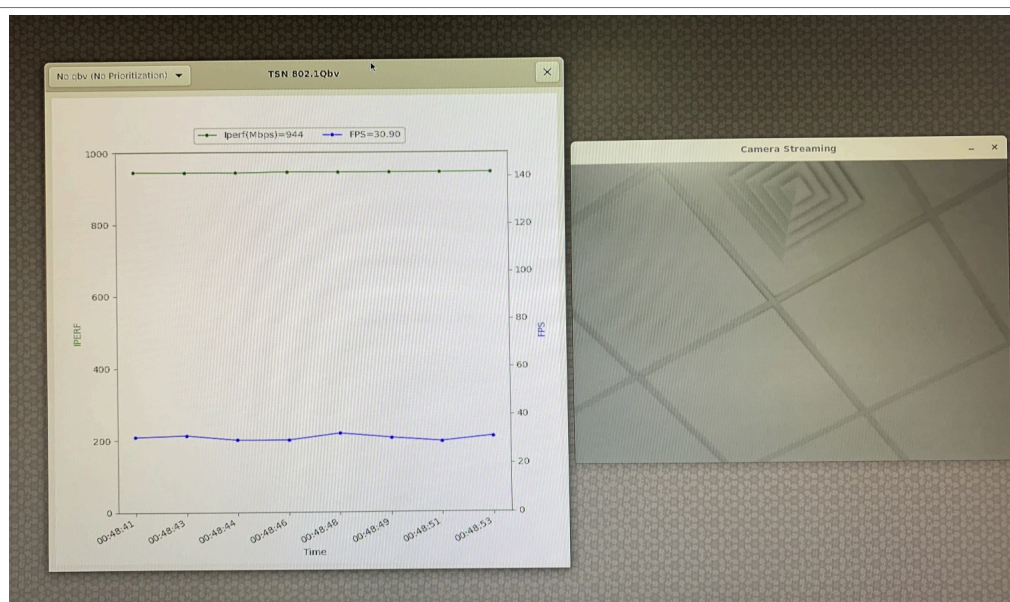

Figure 52. Default graph window and camera window
- After a successful start of the demo, the default graph window and camera window show up, as shown in Figure 52.